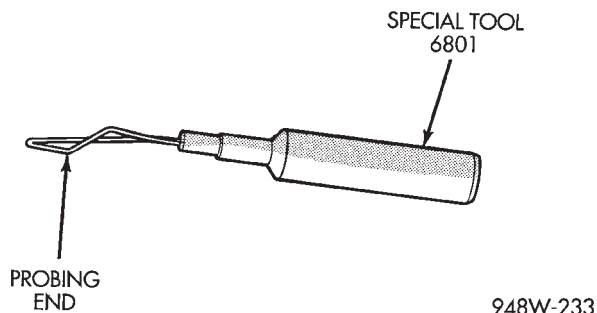

Fig. 5 Probing Tool
• **Probing Tools** - These tools are used for probing terminals in connectors (Fig. 5). Select the proper size tool from Special Tool Package 6807, and insert it into the terminal being tested. Use the other end of the tool to insert the meter probe.